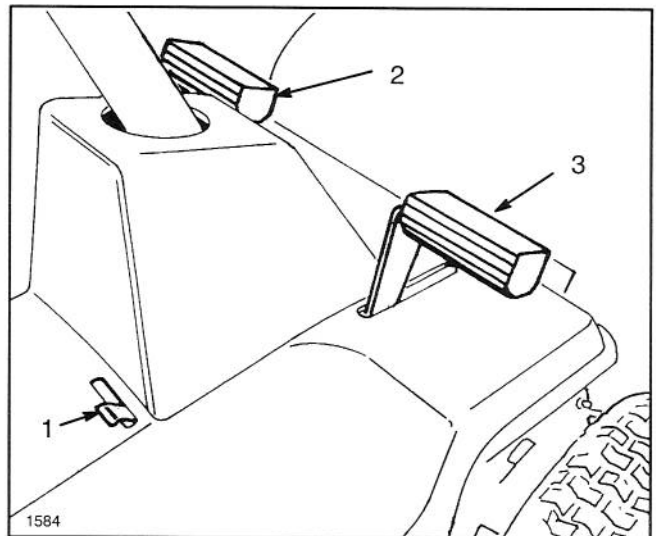

Figure 6
Clutch Pedal (Fig. 6)—Foot—operated clutch pedal is used in conjunction with gear shift. Depress clutch pedal fully when shifting gears. Depress clutch pedal whenever brake is used.
Brake Pedal (Fig. 6)—Foot—operated brake pedal must be depressed to slow down or stop the rider. When pedal is depressed, a caliper engages the brake disc on the side of the transmission. Always depress clutch pedal when using brake. Attempting to drive with the parking brake engaged will cause the engine to kill.
Parking Brake (Fig. 6)—Parking brake must be used in conjunction with brake pedal. When pedal is depressed and end of parking brake lever holds brake pedal in depressed position, a caliper engages the brake disc at side of transmission. Parking brake has an interlock with the engine, if you try and drive with the parking brake engaged the engine will kill.
1. Engage the parking brake (Fig. 6): refer to using Parking Brake, page 17.
2. Move parking brake control to the left and release brake pedal until it contacts end of parking brake lever (Fig. 6).
3. To release the parking brake, depress brake pedal (Fig. 6), which will allow parking brake lever to return to its disengaged position. Then release brake pedal.